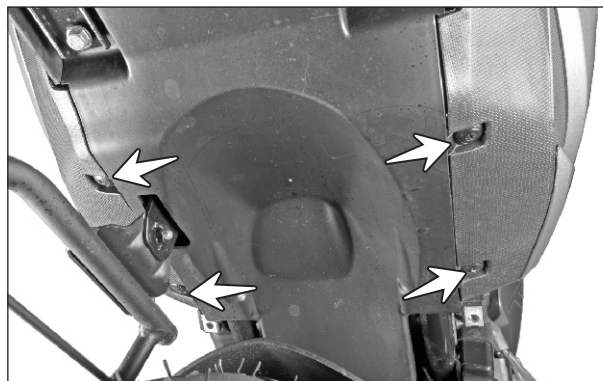

Fig. 2.29
- Loosen the screws of snap rivets and pull out all the four snap rivets from the tail cover mounting. (Fig. 2.29)